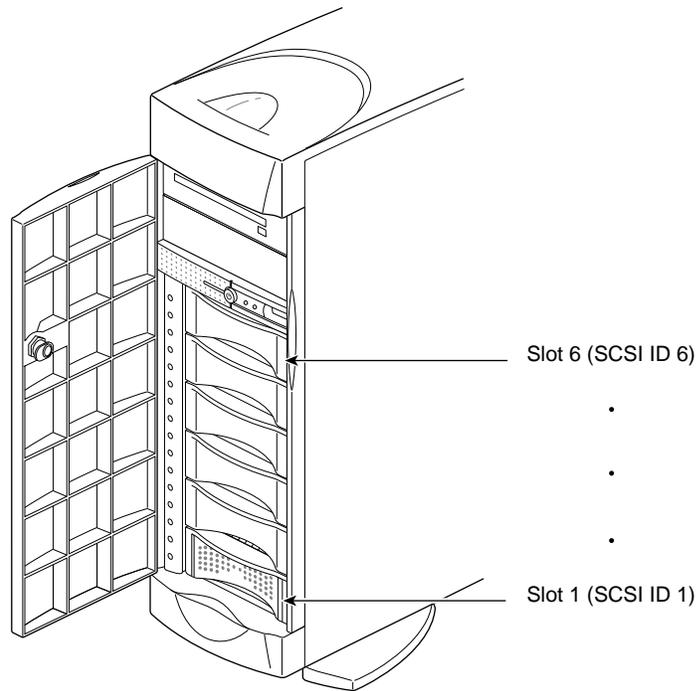

Figure 6-17 3.5-Inch Drives Numbering in an Origin200 System
2. Locate the drive you want to remove. The drives are numbered as shown in Figure 6-17.